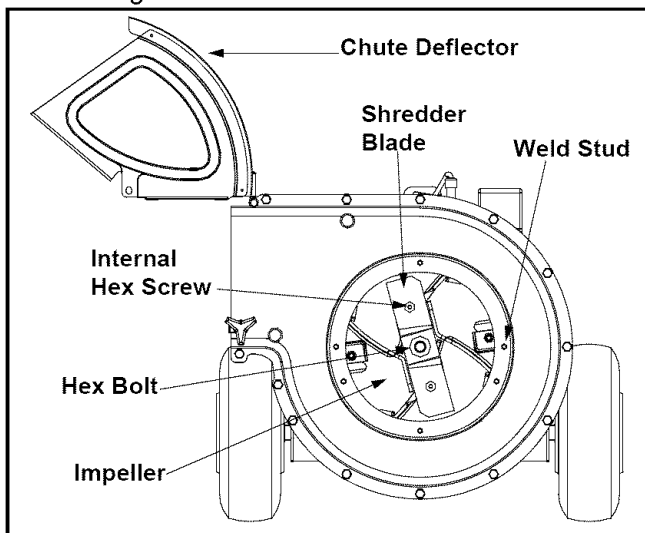

Figure 11
- Remove the two internal hex screws which secure the shredder blade to the impeller. See Figure 11.